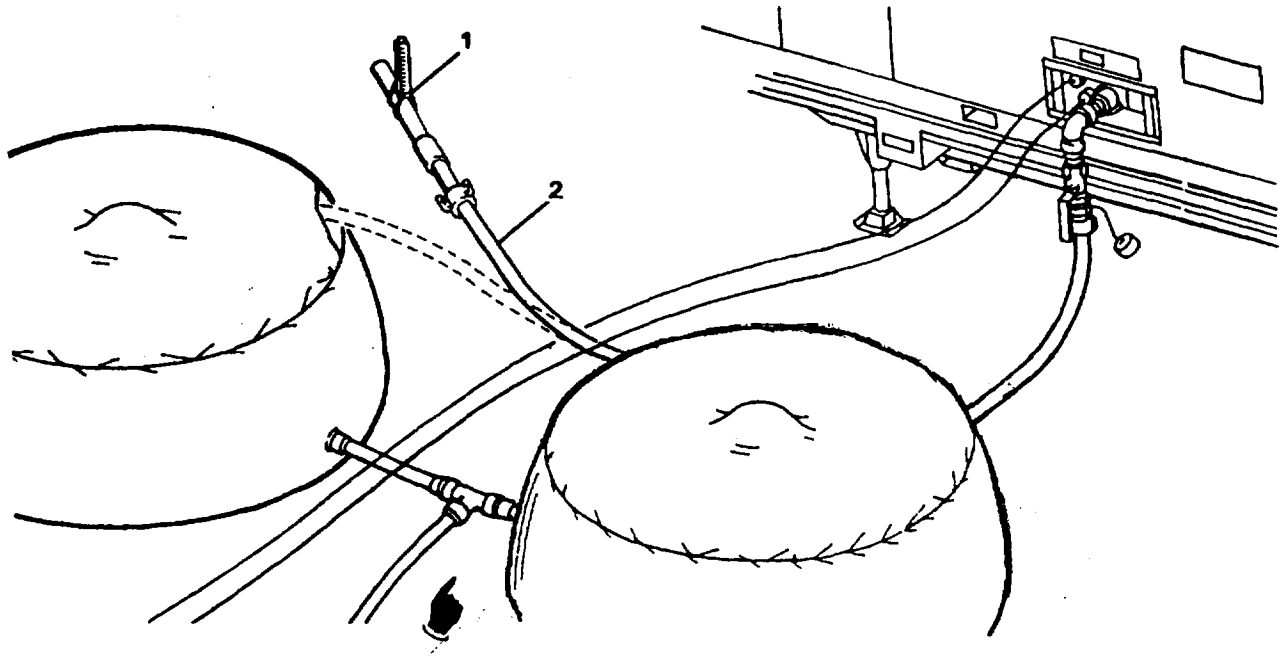

Figure 2-80. Use of Portable Flowrate Indicator
- (c) A portable flowrate indicator (1, Figure 2-80) is provided as a replacement for the panel flowmeters. This portable flowrate indicator is stored in the special tools and indicators storage box no. 4 (Figure 2-24). Simply connect the flowrate indicator to the end of the product to storage hose (2, Figure 2-80). Holding the flowrate indicator in a horizontal position with the indicator on top, read the flowrate directly in gallons per minute. Make necessary adjustments in the ROWPU to attain the desired performance.